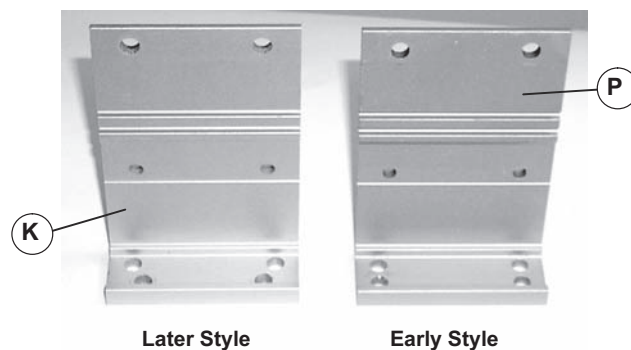

Figure 4
Some early style conveyor mounting brackets (Figure 4, item P) have a different hole pattern and will not attach to the common mount stand crossmember. If necessary, replace early style brackets with later style brackets (K).